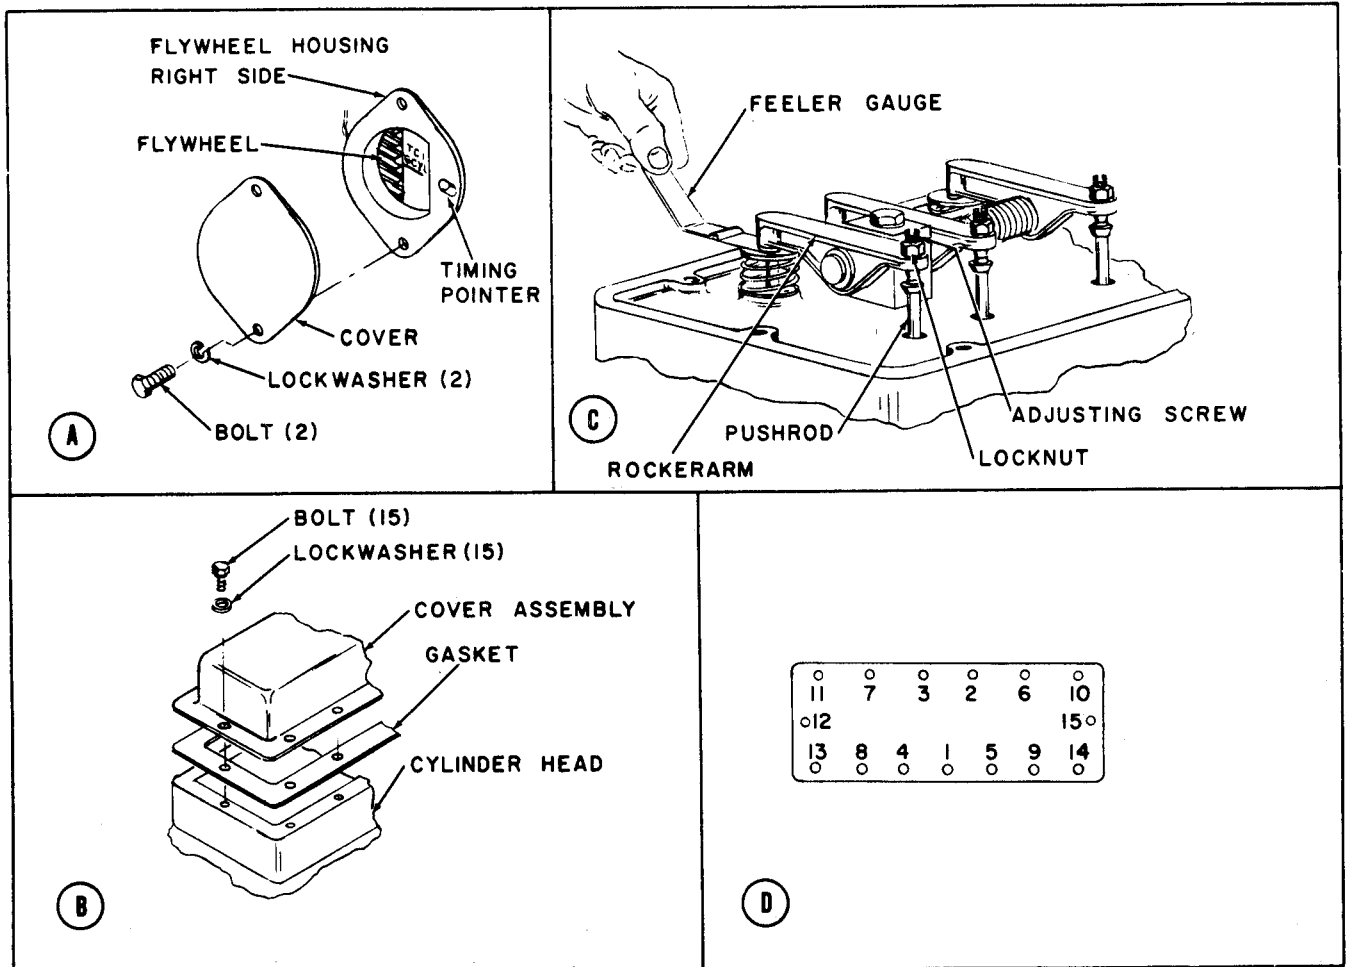

Figure 3-43. Valve lash, adjustment
b. ADJUSTMENT PROCEDURE. Refer to figure 3-43 and adjust valve lash as follows:
1. Remove flywheel housing cover as illustrated in A, figure 3-43.
2. Clean around valve cover assembly. Remove cover assembly and gasket as illustrated in B, figure 3-43.
(a) Insert feeler gauge as shown in C, figure 3-43. Loosen locknut and rotate adjusting screw until proper clearance is obtained.
8. Inspect valve cover gasket, replace if necessary. Install valve cover assembly and gasket. Tighten valve cover assembly bolts to 8 ± 2 foot pounds in the sequence illustrated in D, figure 3-43.